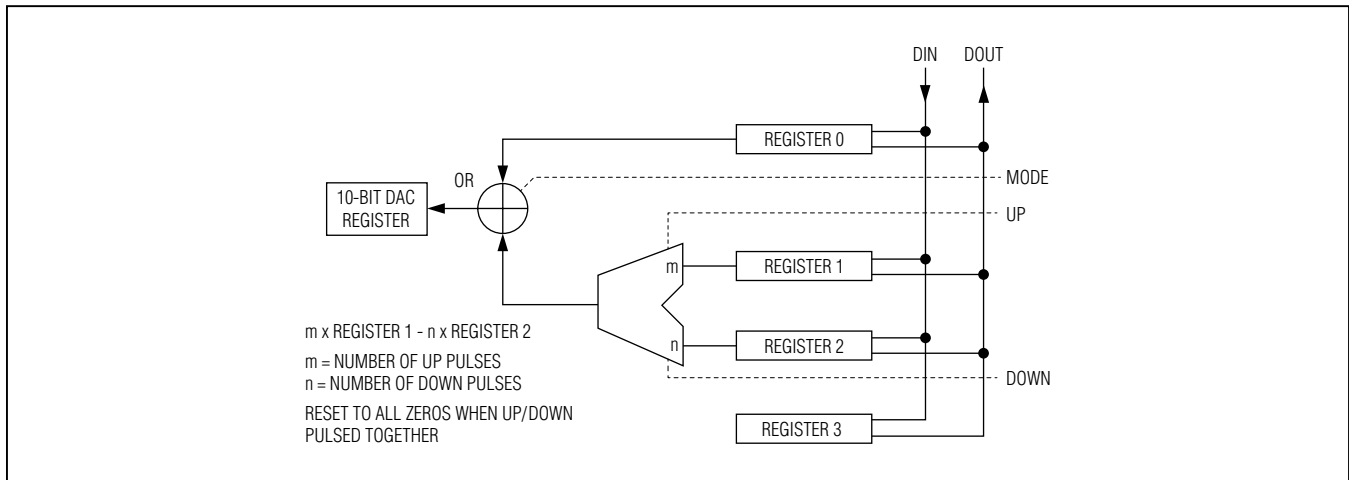
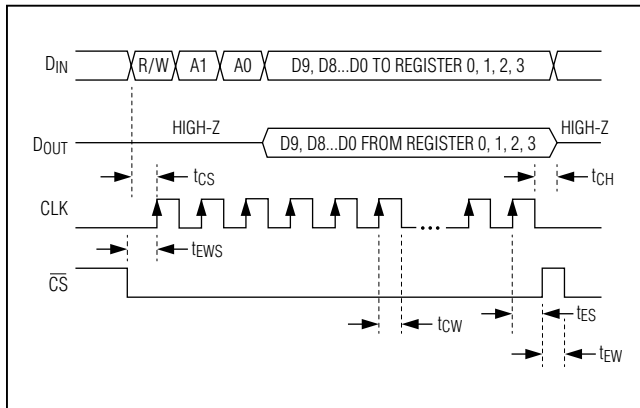
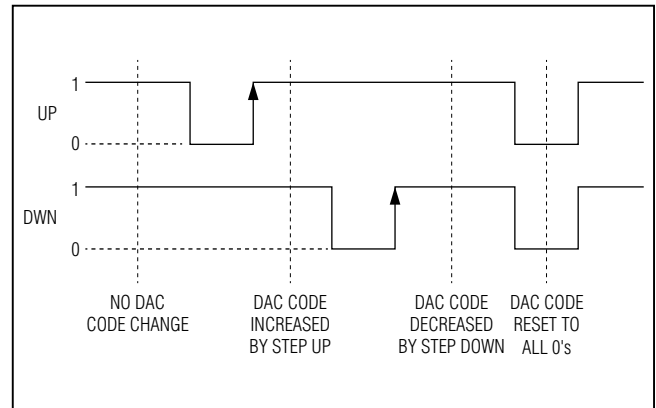

Figure 1. Register Configuration Diagram
Figure 2. SPI Timing Diagram
Figure 3. UP DWN Control Diagram (Mode = 1)
Figure 1 shows the configuration of the internal registers of the device, and Figure 2 shows the timing of the SPI bus. Register 0 is used to set the DAC code to the desired value, register 1 selects the step-up code, and register 2 selects the step-down code.
in Figure 1. This is applied to the 10-bit DAC register that drives the DAC. To increase (decrease) the code using the UP (DWN) pin, the DWN (UP) pin must be high and the UP (DWN) pin should be pulsed low to high. The part is designed to produce no wraparounds when using UP and DWN stepping, so the DAC code maxes out at 1023 or goes no lower than 0. See Figure 3 for the UP and DWN control operation.
The device can be controlled with a 4-wire SPI-compatible serial interface. Figure 2 shows a timing diagram for the interface. In the write mode, a 13-bit word is loaded into the device through the DIN pin with  $\overline{\text{CS}}$  set low. The first bit of the word in the write mode is 0, and the next two bits select the register to be written to. See Table 2. The next 10 bits contain the data to be written to the selected register. After the 13 bits are shifted in, a low to high  $\overline{\text{CS}}$  command is applied and this latches the 10 bits into the selected register. The entire write command is ignored if  $\overline{\text{CS}}$  is pulsed low to high before the last data bit is successfully captured.